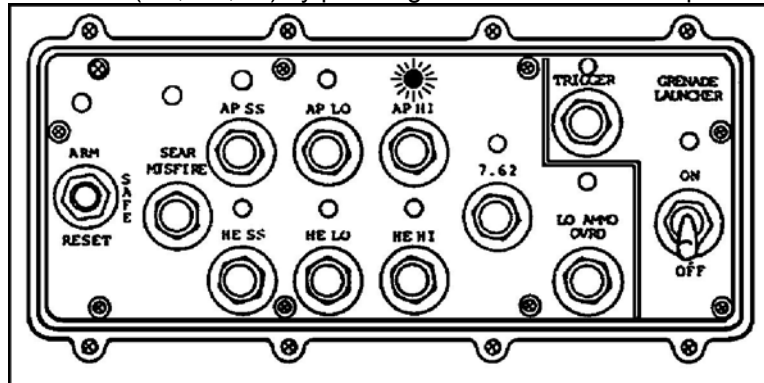

Figure 1. Weapon control box.
1. Select AP and rate of fire (SS, LO, HI) by pressing the button on the weapon control box (Figure 1).